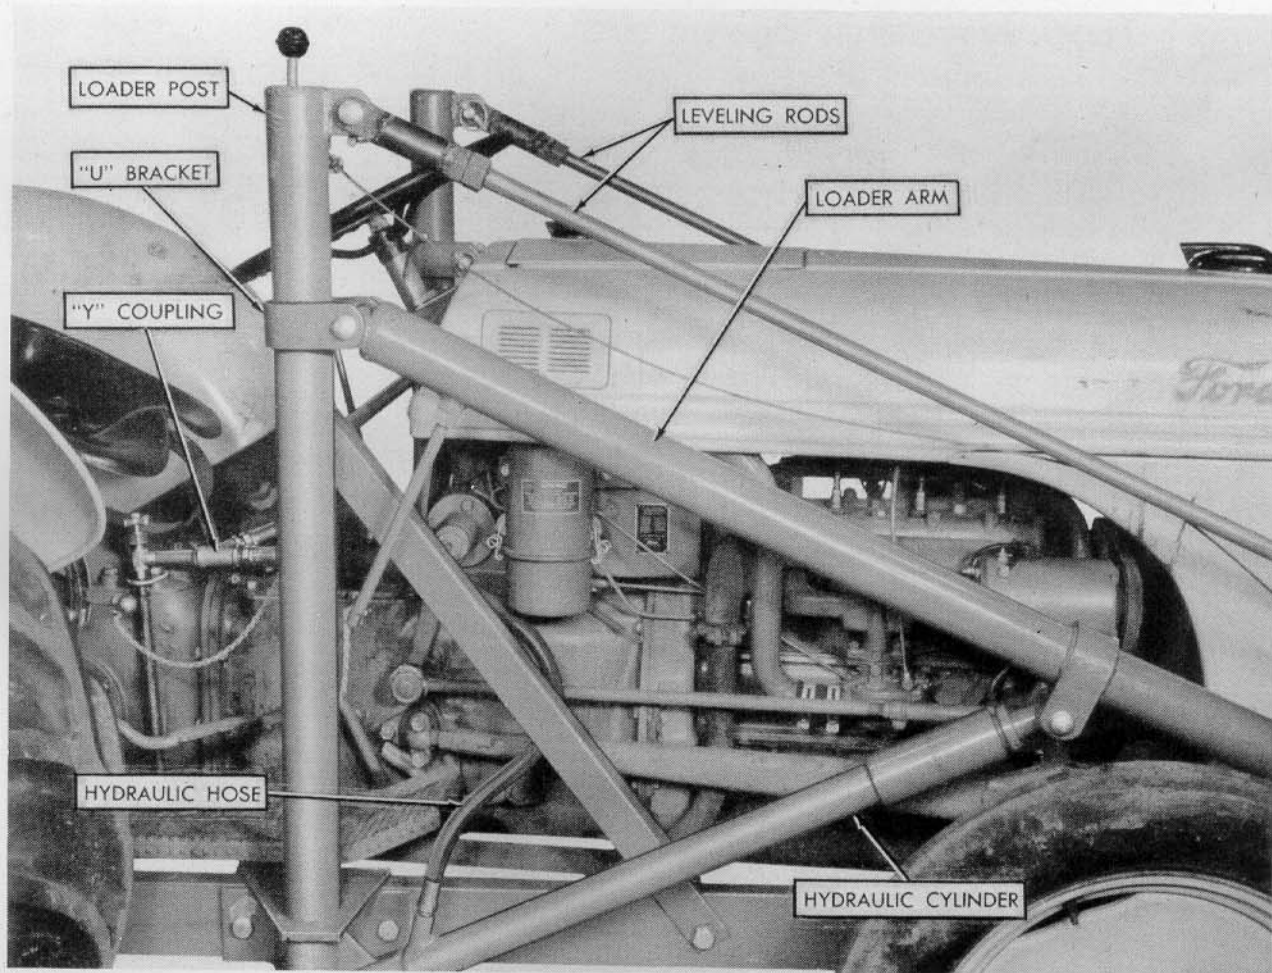

Figure 14
8. Attach the rear end of the loader arms to the "U" brackets on the loader posts with $5\frac{7}{16}$ " link pins and secure with the linch pins as shown in Figure 14.
9. Attach the rear end of the hydraulic cylinders to the base of the loader posts with $3\frac{1}{16}$ " link pin and secure with the linch pin. See Figure 14.
10. Raise the loader arms and attach the ram end of the hydraulic cylinder to the loader arms with the $5\frac{7}{16}$ " link pin. Secure with the linch pin. See Figure 14.
11. Attach the "turnbuckle" end of the leveling rods to the flange on the loader post with $3\frac{1}{4}$ " link pin and secure with the linch pin. See Figure 14.
12. Remove the plugs from the hose fittings on the hydraulic cylinders and from the "Y" couplings, and attach the hydraulic hoses. See Figure 14.